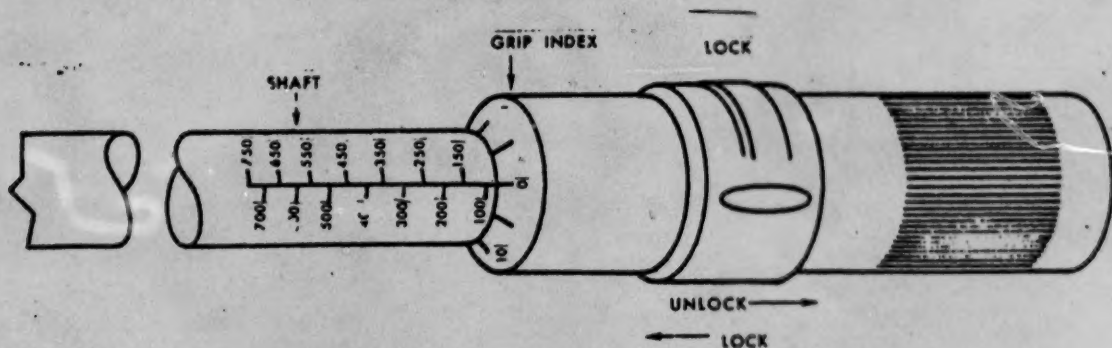

Figure 1.
6. Slide the locking ring forward (see figure 1) to lock the grip at exactly 200 inch pounds; this will prevent a change in the setting as you use the wrench. Note that it is impossible to lock the grip if any of the index lines are not exactly aligned with the line on the shaft; i.e., it will lock at 200 inch pounds and at 205 inch pounds, but not at 201, 202, 203, or 204 inch pounds.